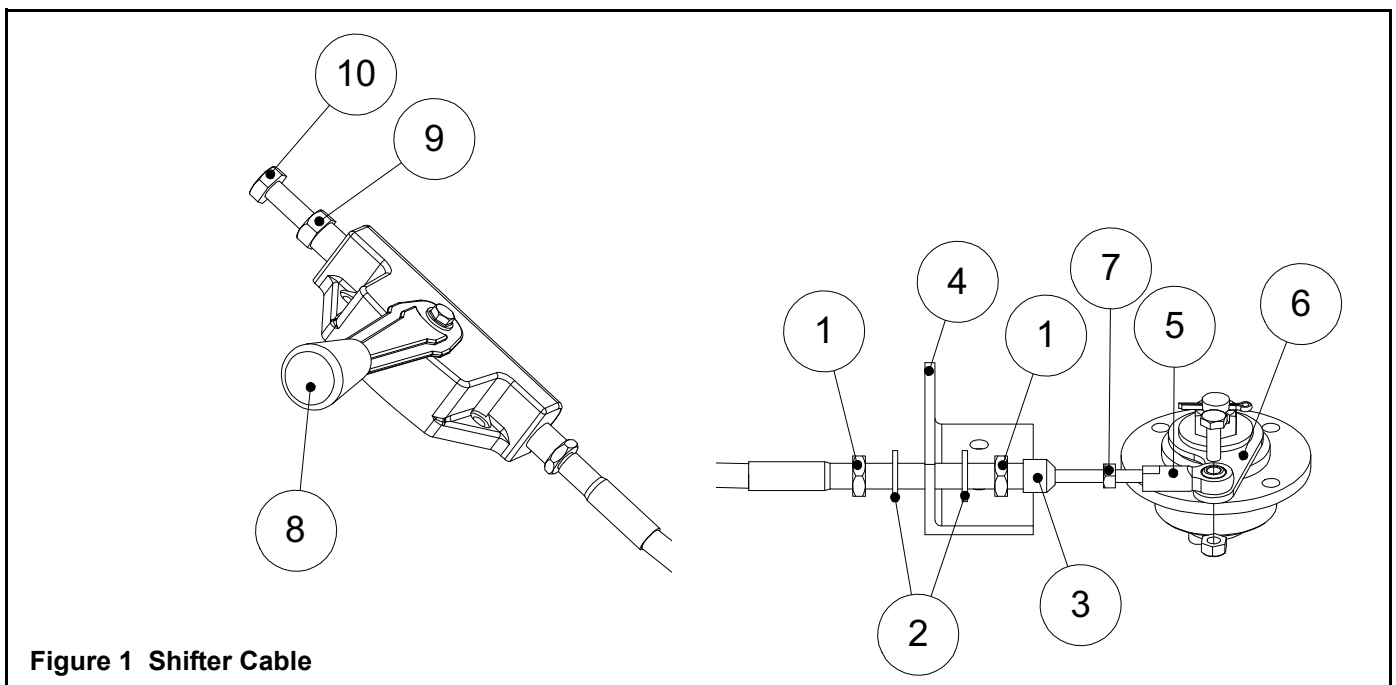

Figure 1 Shifter Cable
Refer to Figure 1 Shifter Cable, page 7.
2. Remove the (4) 1/4" hex head capscrews securing the beltguard to the side plate on the engine deck and remove the beltguard and belt.
4. Remove the (4) 1/2" hex head capscrews securing the engine deck to the base plate.
5. Disconnect the shifter lever from the handle by removing the (2) 1/4" socket head capscrews.
7. Disconnect the shifter cable from the actuator assembly and exciter housing by removing the 1/4" bolt and jam nut securing the ball joint to the actuator lever and removing the (2) hex head capscrews securing the angle bracket to the exciter assembly. (Refer to Figure 1 Shifter Cable, page 7..)
9. Remove the (6) hex nuts and washers securing the exciter assembly to the base plate and remove the exciter.